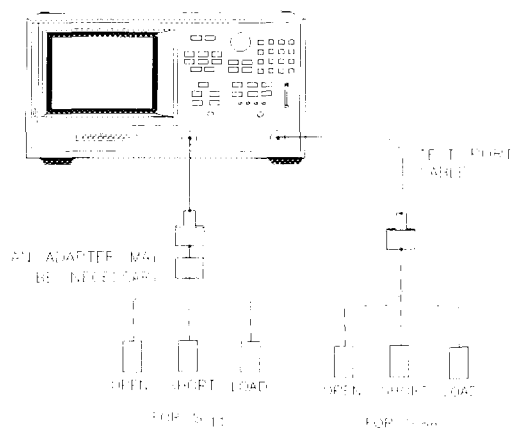

Figure 1-6. Match calibration
- 11 Disconnect the RF cable from the input to the lightwave source. If an adapter is needed to make the RF thru connection described in Step 13, it should be connected between the RF cable and the open, short, and load. Connect the "open" connector from the calibration kit. Step through the menus measuring the open, short, and broadband (load). For the remainder of the test, do not disconnect the cable from the HP 8702D. Refer to Figure 1-6 on page 1-19.